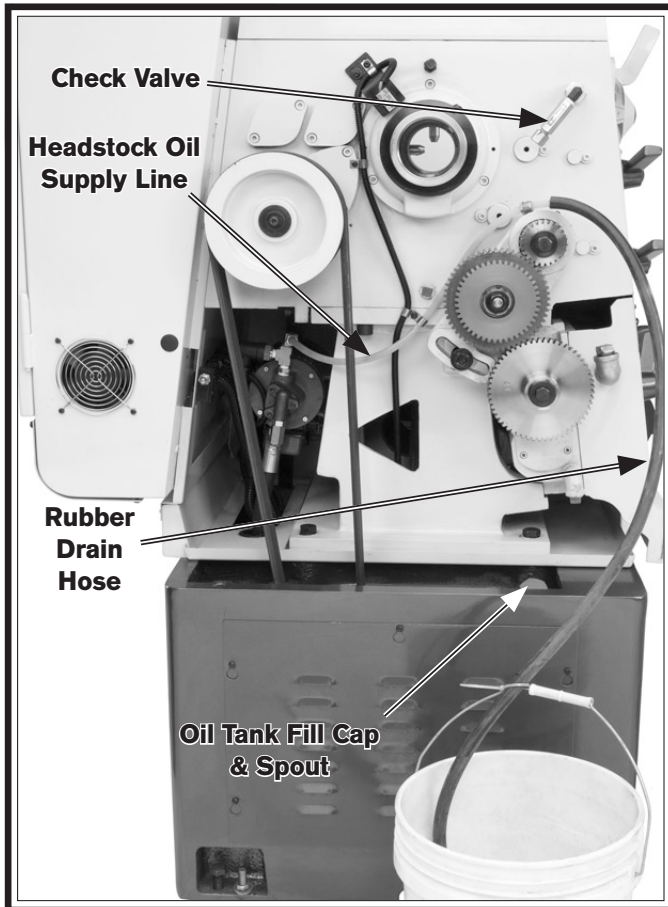

Figure 100. Draining headstock oil.
3. Remove the headstock oil supply line from the check valve (see **Figure 100**).